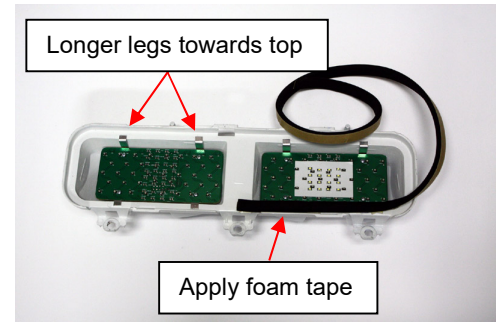

Figure 2
- 3.5. Starting at the bottom of the back housing, apply one piece of the included ½" wide spacer foam to the perimeter edge of the taillight back housing. (See Figure 2) Apply the rubber foam spacer to both the right and left housings.
NOTE FOR PINK WIRE SPLICE: The pink wire splice will require a pre-cut 6" pink wire length joining with the inboard panel's pink wire into the splice. When completed, the pink wire splice should resemble what is shown in Figure 2.